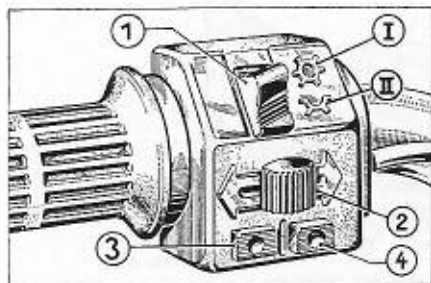

Fig. 2
| (5) Combination switch (see Fig. 2) | (12) Identification plate and chassis No. |